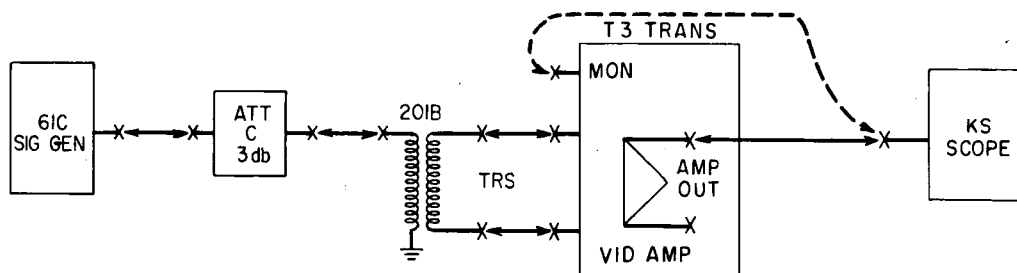

Fig. 3 — Test Arrangement for Clipper Threshold Control Adjustment — T3 Terminal
- (1) Set up test arrangement of Fig. 3.
- (2) Set PICTURE WIDTH and AMPLITUDE controls maximum counterclockwise turns.
- (6) Connect the VIDEO OUT jack of the 61C to the unbalanced side of the 201B coil through ATT C as shown in Fig. 3. Connect the balanced side of the 201B coil to TRS IN jacks of the T3 terminal. Set ATT C to 3 db.
- (7) Connect the INPUT jack (INPUT MULT unterminated) of the oscilloscope to the top monitor jack of the TRS IN jacks in the jack field. Check that the sync pulse is negative.
- (8) Adjust the SYNC AMP of signal generator to obtain 25 divisions (1/4 volt P/P) on the oscilloscope scale.
- (9) Remove patch plugs between the AMP OUT and the MOD IN jacks on the video amplifier.
- (10) Patch the INPUT jack of the oscilloscope to the top AMP OUT jack of the video amplifier. Adjust V gain of oscilloscope for 100 divisions.
- (11) Turn the THRESHOLD control maximum counterclockwise first, then turn clockwise until the signal amplitude *just begins* to decrease.
- (12) Set ATT C to 0 db and check that the amplitude of the pulse does not increase to more than 115 divisions.
- (13) Restore patch plugs in the video amplifier and the jack field